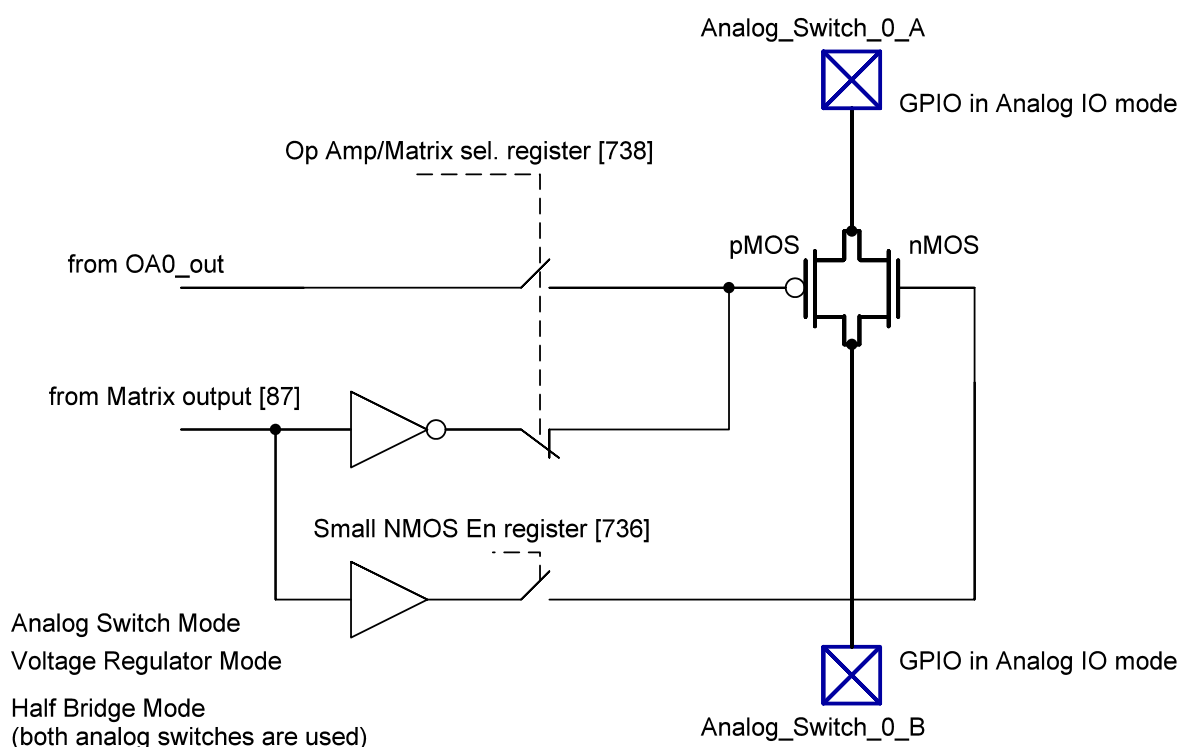
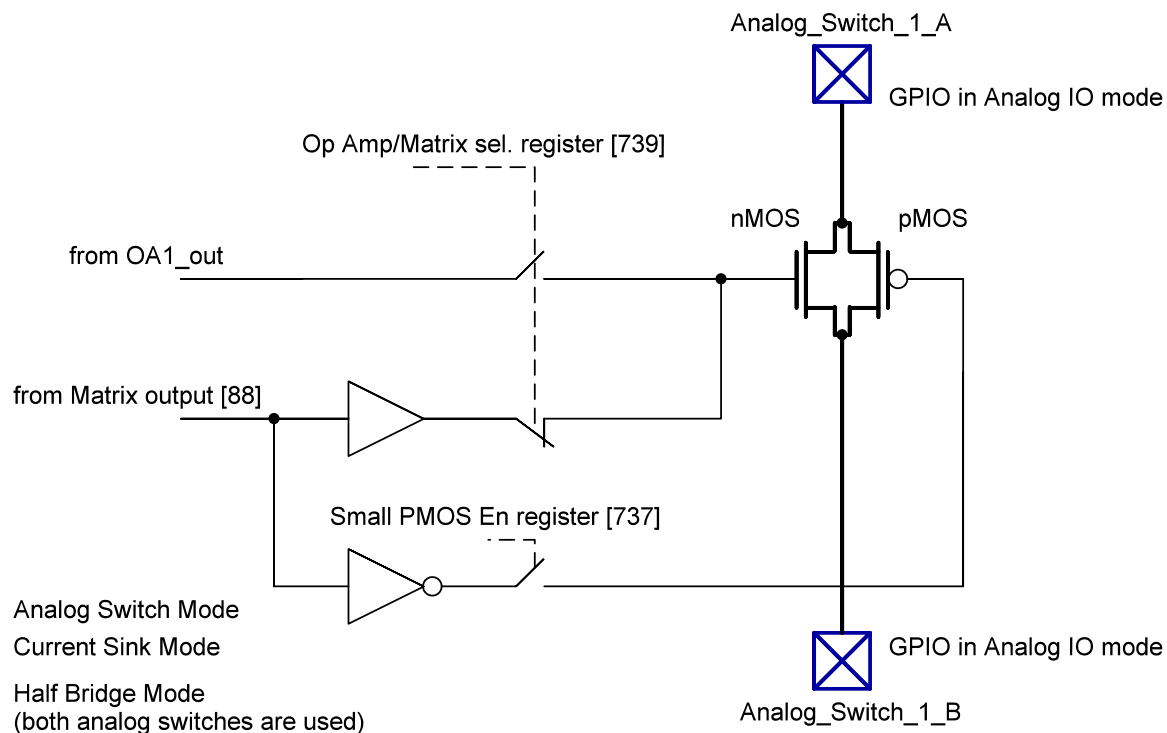

Figure 165. Analog Switch 0 Control Circuit
Figure 166. Analog Switch 1 Control Circuit
The SLG47004 contains two single-pole/single throw (SPST) normally open analog switches (AS). The structure of the Analog Switches is shown in Figure 165 and Figure 166.